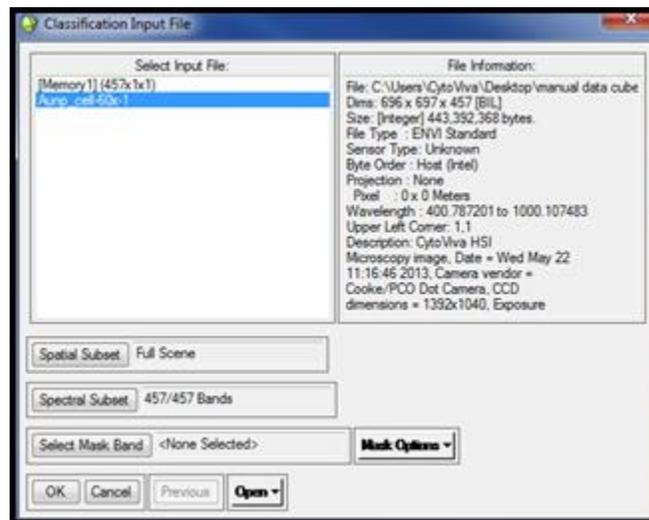

Figure 5.2i. Selecting the input file for classification
- Then select the file in the list to use as the input image. For this exercise select **Aunp_cell-60x-1** (Figure 5.2i).